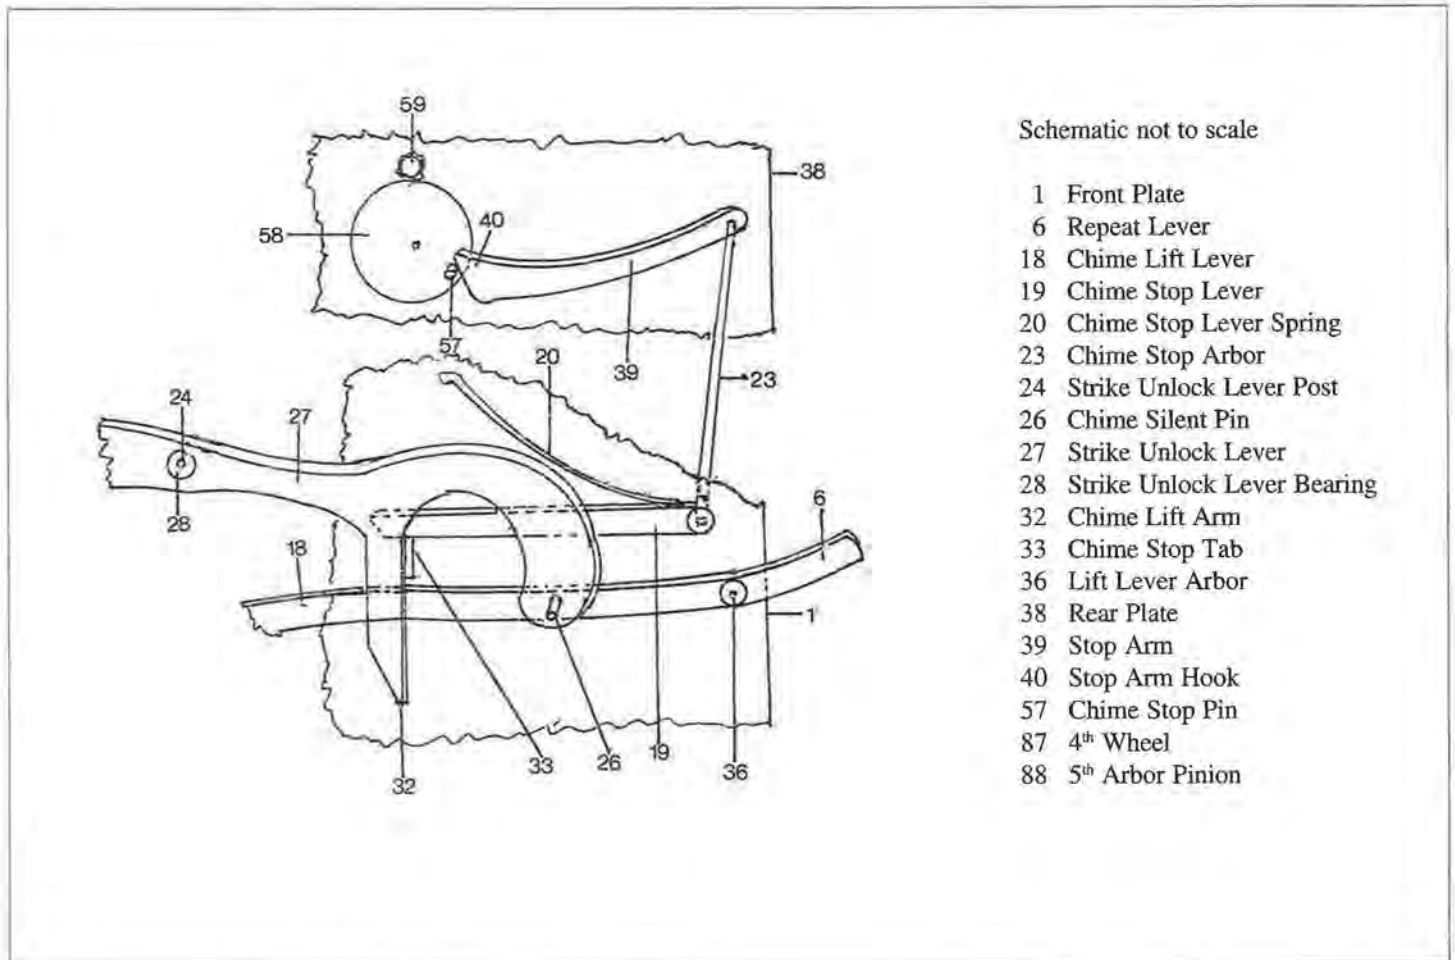

Figure 60.2. Chime Stop/Start Component Schematic
Note: This assembly is not adjustable. The correct position is as shown in the Figure 60.2 schematic. The chime stop lever (19) is resting on the stop tab (33) with the chime lift lever lying on the chime lift rocker (10).